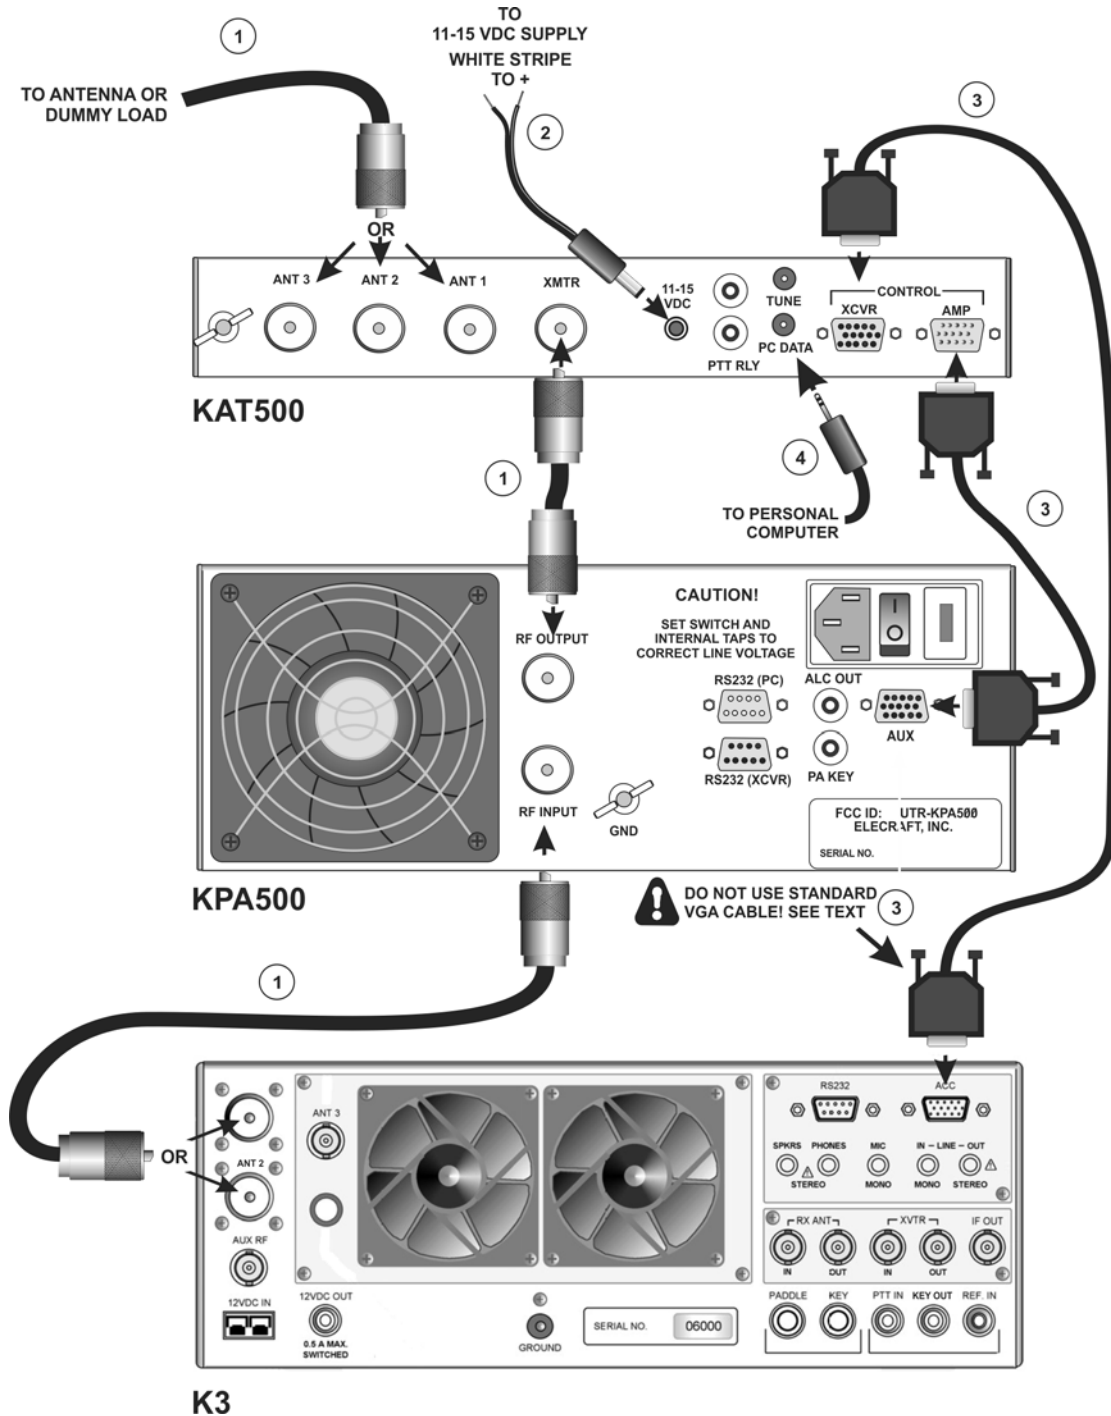
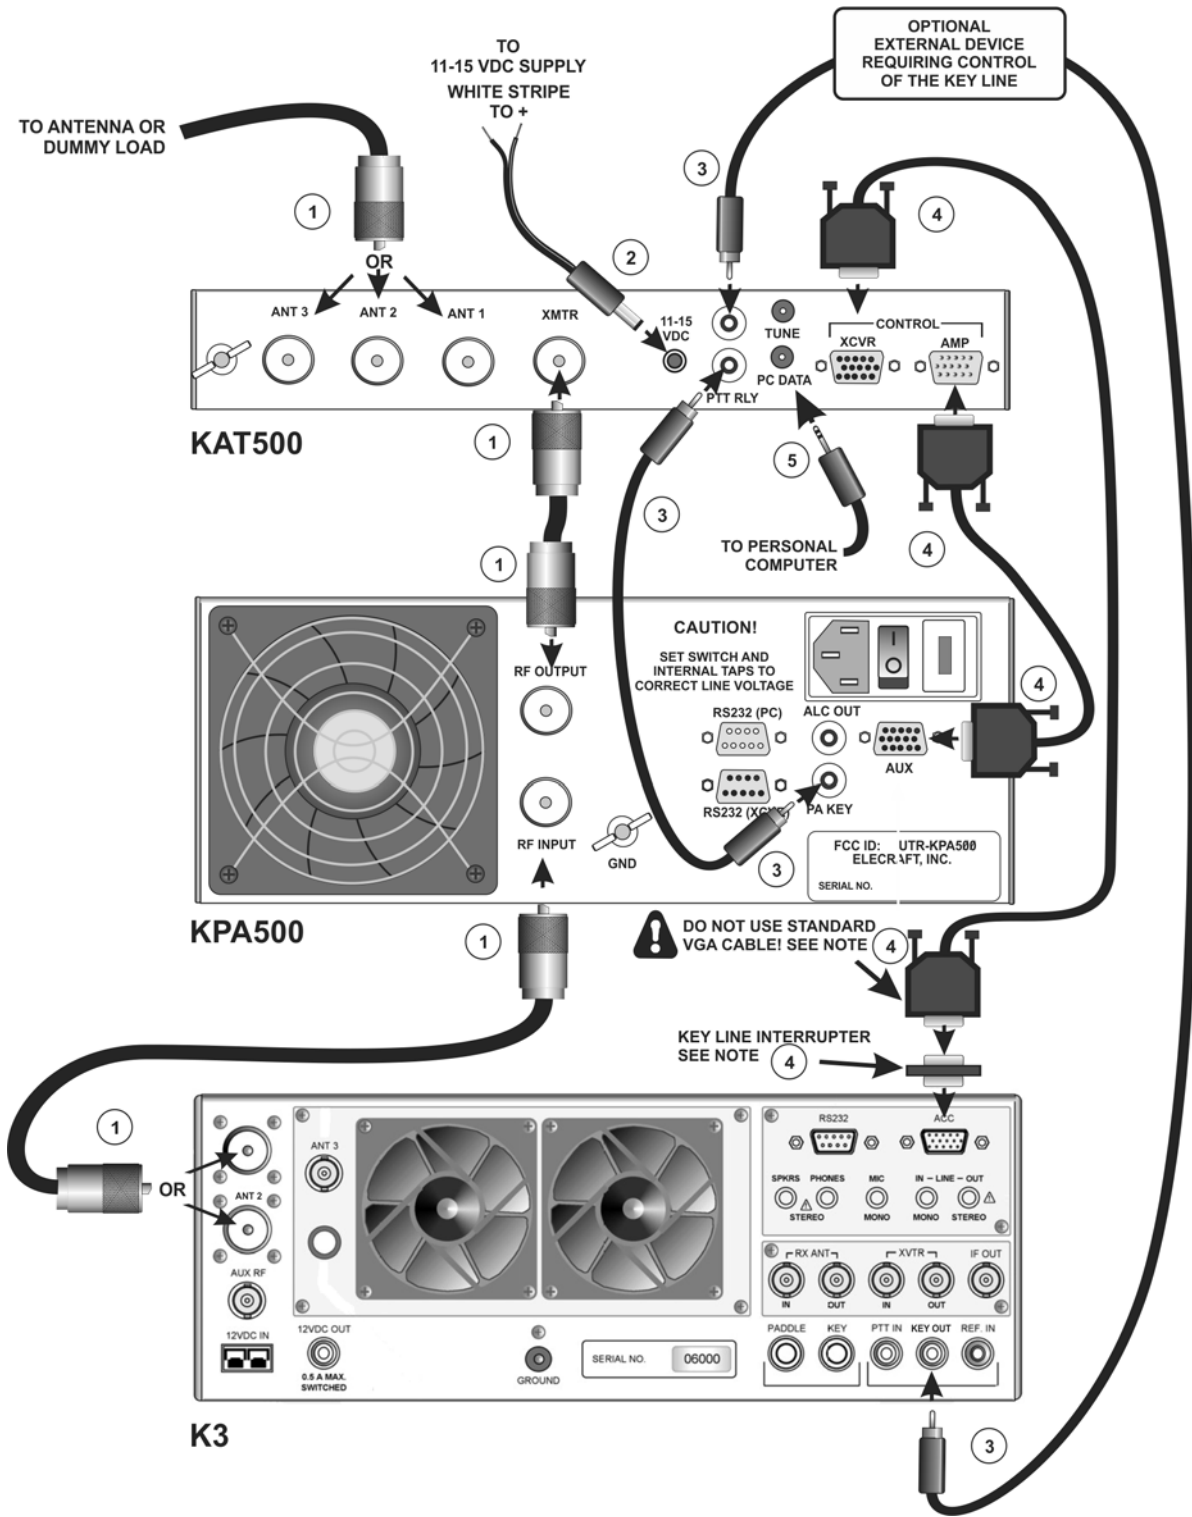

Figure 1. Cabling Diagram: Elecraft K3, KPA500 and KAT500 Using DB15 Interface Cables.
Figure 2. Cabling Diagram: Elecraft K3, KPA500 and KAT500 Using DB15 Interface Cables with Separate Key Line.
Refer to Figure 1 (page 4) and the following notes:
Refer to Figure 2 (page 6) and the following notes:
When using the external key line Figure 2 ③, the key line in the DB15 interface cable ④ must be opened so that external equipment inserted in the key line can inhibit the amplifier when needed. You can order the KPAK3AUX Elecraft cable set which includes the key line interrupter or you make your own cable and leave pin 10 at the connectors open (see *Interface Cable Wiring* on page 9).
- ⑤ **Computer interface cable.** USB connector to 3.5 mm T-R-S connector. Not required for normal operation, but used for controlling the KAT500 from a personal computer, customizing the KAT500's operation or for updating firmware (see *Utility Program* on page 14).
NOTE: If you have devices that need access to the PA Key line (e.g. SteppIR controllers, etc.), leave pin 10 open and use the external key line cable (see Figure 2, cable ③). If you purchased the KPAK3AUX cable set which includes the DB15 Interface Cable, a key line interrupter is provided that plugs in between the cable and the K3 to interrupt the pin 10 circuit without modifying your cable.
When the KAT500 is used with an Elecraft K3 and a DB15 interface cable as shown in Figure 1 or Figure 2, just select the antenna you want on each band and the KAT500 will switch back to it when you return to that band later.
⚠ IMPORTANT: If you are using the KAT500 with an Elecraft K3 transceiver connected using DB15 cables as shown in Figure 1 or Figure 2, you must apply power to the KAT500 before turning the K3 on. If you turn the K3 on before applying power to the KAT500 the K3 will not be able to initialize correctly.
When using the KAT500 with an Elecraft K3 transceiver and KPA500 amplifier, the KPA500 and KAT500 will change bands at the same time as the K3 when they are interconnected with the DB15 interface cable (Figure 1 cable (3) or Figure 2 cable (4)).